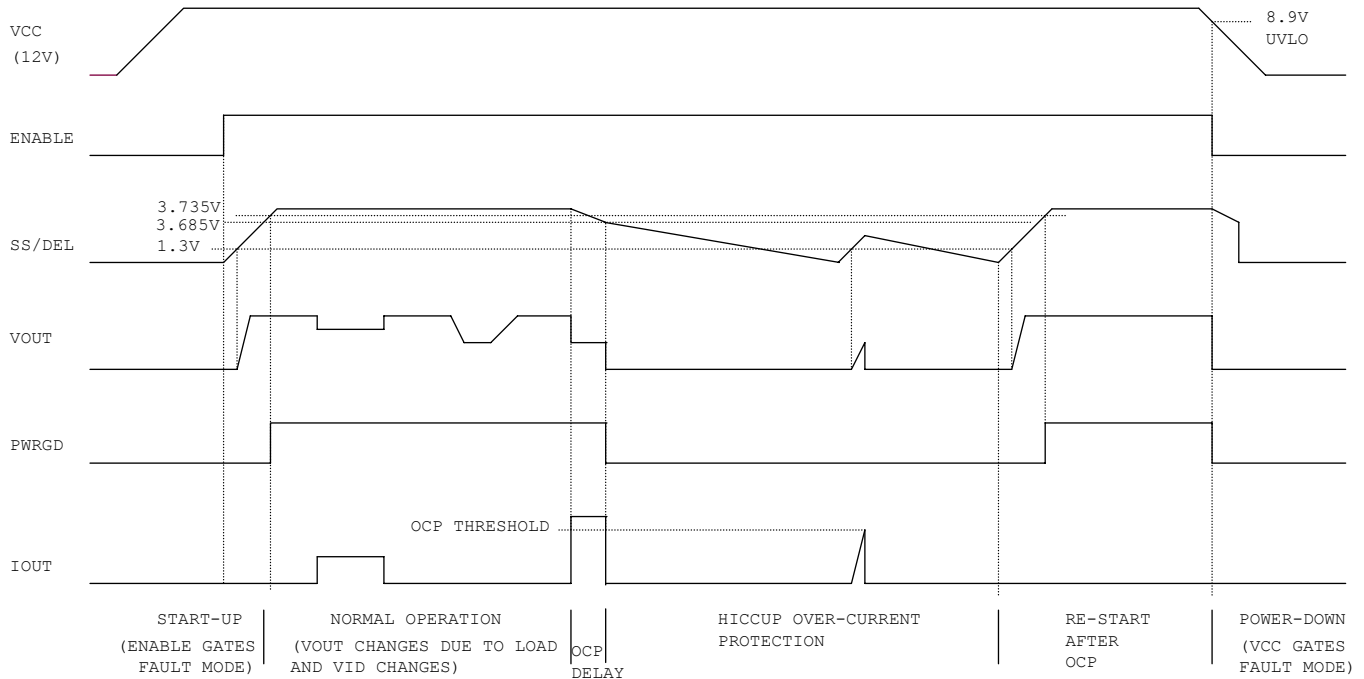

Figure 10. Operating Waveforms
Figure 10 depicts the various operating modes as controlled by the SS/DEL function. If there is no fault, the SS/DEL pin will begin to be charged. The error amplifier output is clamped low until SS/DEL reaches 1.3V. The error amplifier will then regulate the converter's output voltage to match the SS/DEL voltage less the 1.3V offset until it reaches the level determined by the VID inputs. The SS/DEL voltage continues to increase until it rises above 3.71V and allows the PWRGD signal to be asserted. SS/DEL finally settles at 3.8V, indicating the end of the soft start.
The SS/DEL pin voltage controls the slew rate of the converter output voltage, as shown in Figure 10. After the ENABLE pin voltage rises above 0.6V, there is a soft-start delay time tSSDEL, after which the error amplifier output is released to allow the soft start. The soft start time tss represents the time during which converter voltage rises from zero to VO. tss can be programmed by an external capacitor, which is determined by Equation (1).